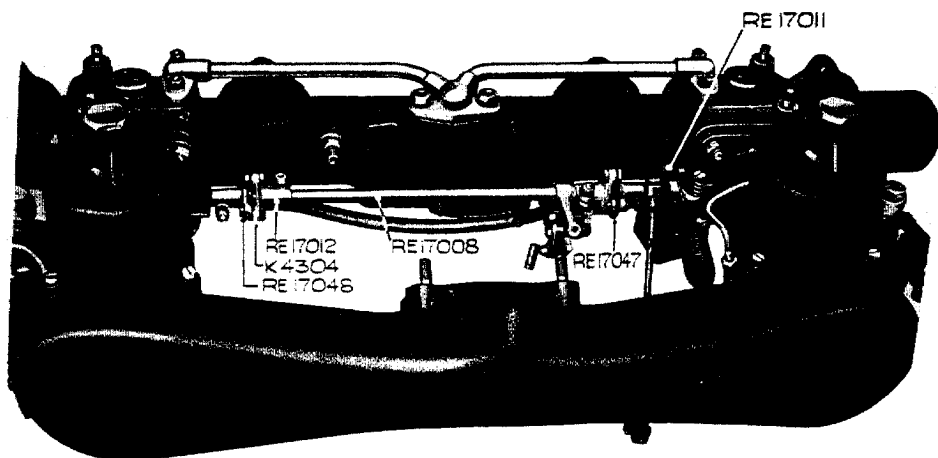

FIG. 1. CARBURETTERS ASSEMBLED.
2. Assemble couplings RE.17012/17047 as complete separate units and then fit these to carburetters as shown in Fig. 1. (Illustration, is position with fully closed throttles).